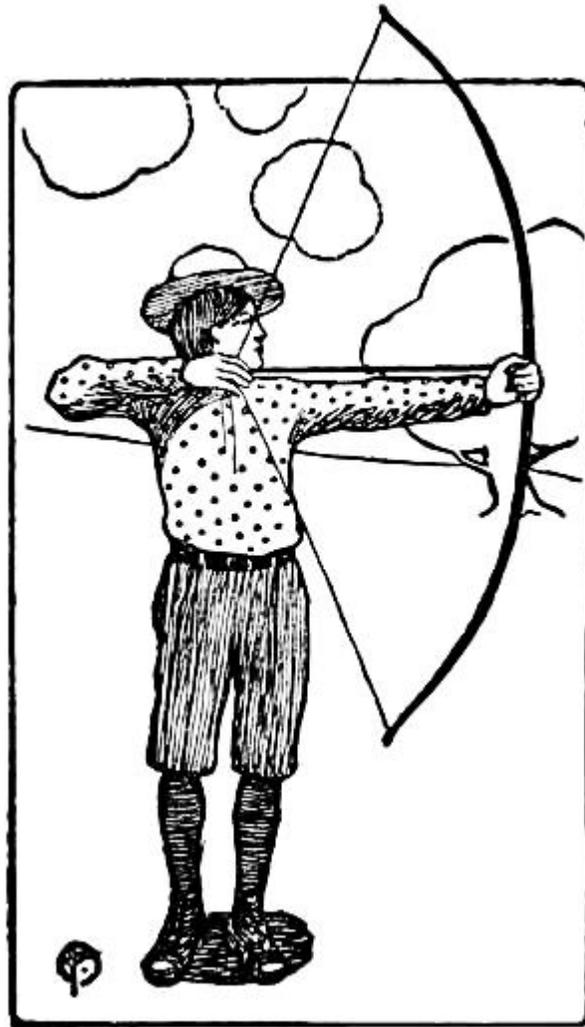

FIG. 248.—Correct Position for Shooting.
**To Shoot** with the bow, take the position shown in Fig. 248, with both feet flat upon the ground, and the heels in line with the target. Hold the handle of the bow in the left hand and place an arrow on the left side of the bow, slipping the bow-string into the notch and letting the head of the arrow rest upon your left hand. Catch the bow-string with the first three fingers of your right hand, so that the end of the arrow comes between the first and second fingers, and draw the string until the head of the arrow rests upon the left hand; then aim quickly and let go of the arrow. By always taking the same hold upon your bow and arrow, you will soon be able to know just where the arrow is going to strike.